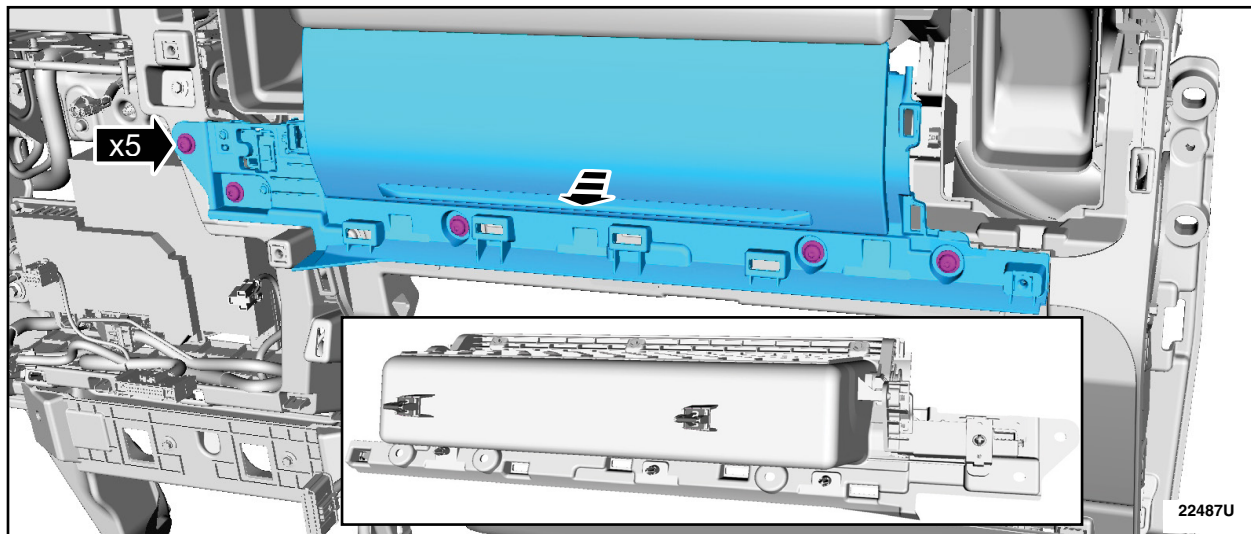

FIGURE 19
20. Remove the bolts and remove the upper storage compartment. See Figure 19.